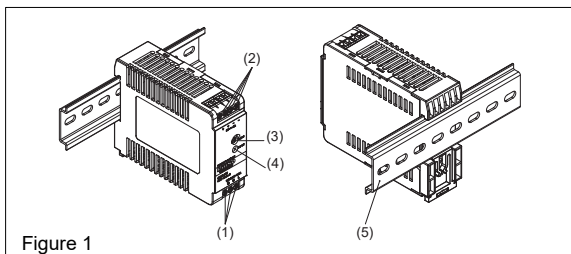
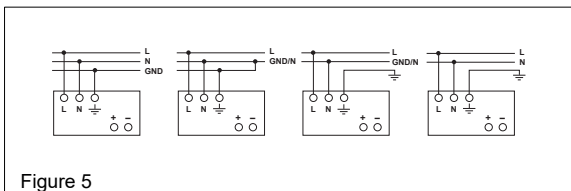

Figure 1
Figure 5
5.1. Input connection (Fig. 1, Fig. 5)
Use L, N and GND connections of input terminal connector (see Fig. 1 (1)) to establish the 100-240 VAC connection. Typical connection methods are shown in Figure 5.
5.2. Output connection (Fig. 1 (2))
Use the "+" and "-" screw connections to establish the 5VDC connection. The output provides 5VDC. The output voltage can be adjusted from 5 to 5.5 VDC on the potentiometer. The green LED DC OK displays correct function of the output (Fig. 1 (4)). The device has a short circuit and overload protection and an overvoltage protection limited to 6.325-7.425 VDC.